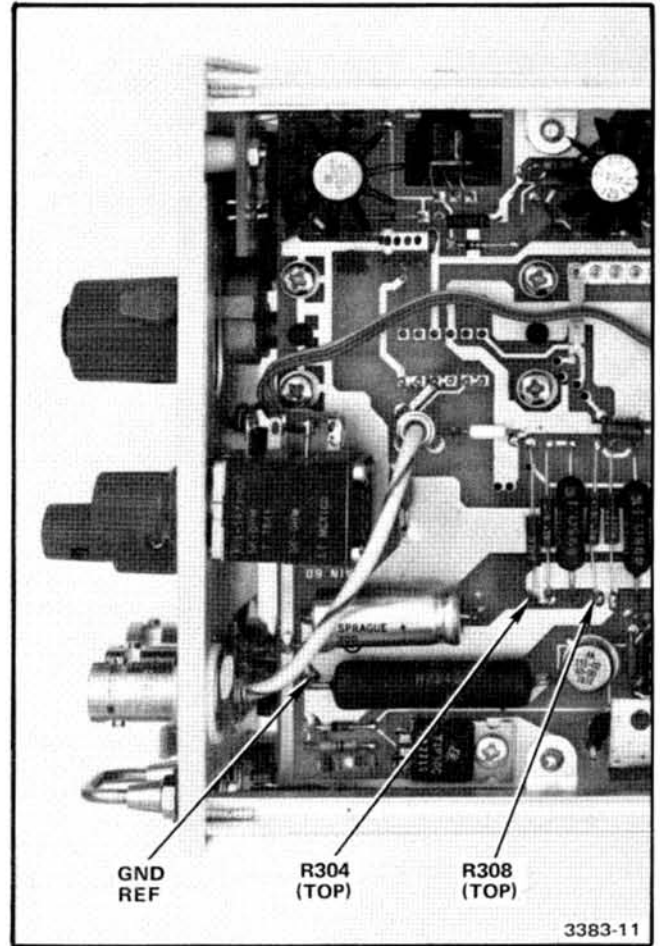

Fig. 4-1. Attenuator connections for current source.
k. Connect the variable 20 mA current source positive lead to the top or R308. See Fig. 4-1.
l. Connect the variable 20 mA current source negative lead to the common floating ground. See Fig. 4-1.
q. Connect the variable 20 mA current source positive lead to the top of R304. See Fig. 4-1.